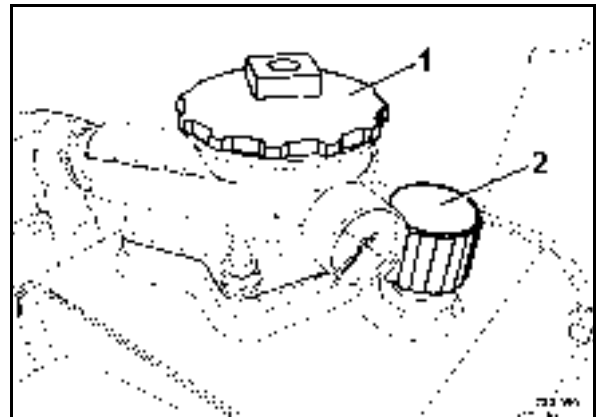

Fig. 127
- Unscrew the filter cover 1 (Fig. 127) and take out the filter element.